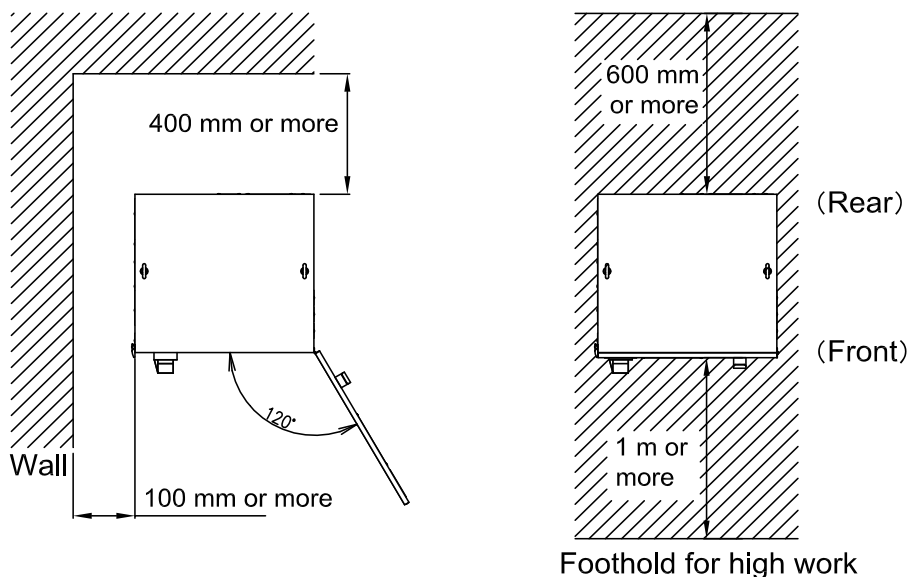

Fig. 4.2.2 Installation of robot controller
- (1) When installing the controller, leave a clearance of at least 100 mm between the controller and the wall behind it in order to ensure proper ventilation inside the robot controller. At the rear side, secure a space of 400 mm at least for external connection cable.
- (2) To install a robot controller and welding power supply, etc. on a place two or more meters in height such as a frame base, a foothold as described in Fig. 4.2.2 is required so that adjustment and maintenance, etc. can be performed.